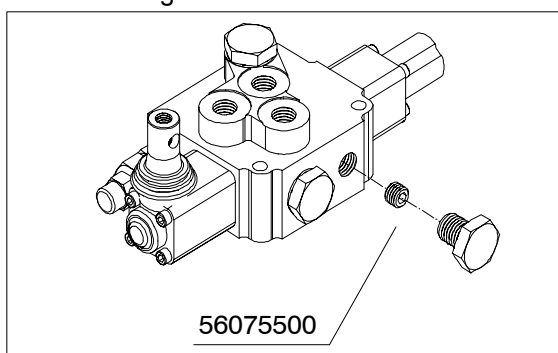

Fig 9. Inserting the plug.
- Insert a plug in the directional control valve – see Fig 9.